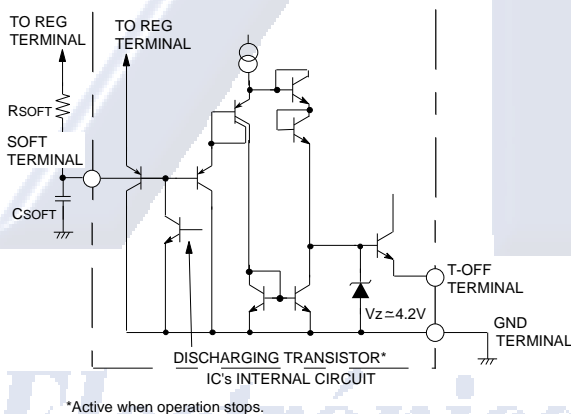

Fig.6 Circuit diagram of SOFT terminal section and T-OFF terminal section
- ① It is ideal for primary control as IC driving current is supplied from the third winding of the main transformer at the start-up because constant ON duration is obtained from start-up.
- ② It is possible to get a wide dynamic range for ON/OFF ratio by pulse-by-pulse current limit circuit.
- ③ The response characteristics at power-on is not affected by input voltage as the pulse-by-pulse limit current value is not affected by the input voltage.
Fig.6 shows the circuit diagram of the soft start. If SOFT terminal voltage is low, T-OFF terminal voltage becomes low and V_{T-OFF} in equations (3) and (4) become low.